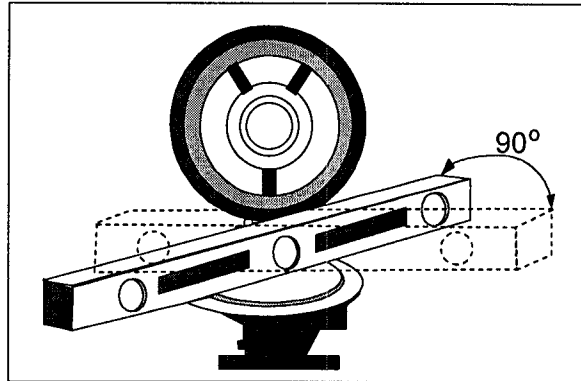

Figure 2-2
- d. With lens open, place a level on the flange of the lantern base. **The bubble level on the lantern shall not be used.** See Figure 2-2.